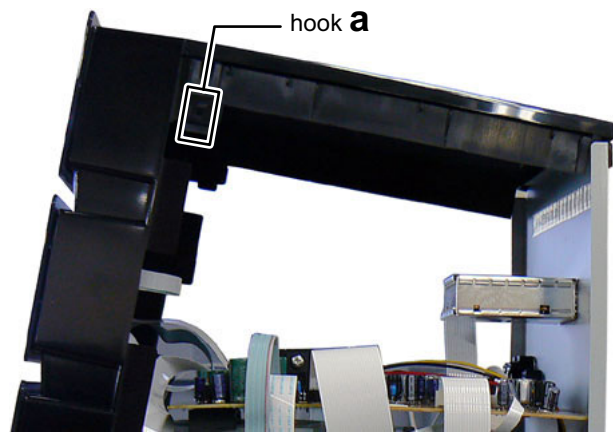

Fig.3
- (3) Disengage two hooks **a** engaged both side of the Top cover. (See Fig.3)
- (3) Remove the four screws **C** attaching the traverse mechanism. (See Fig.3)